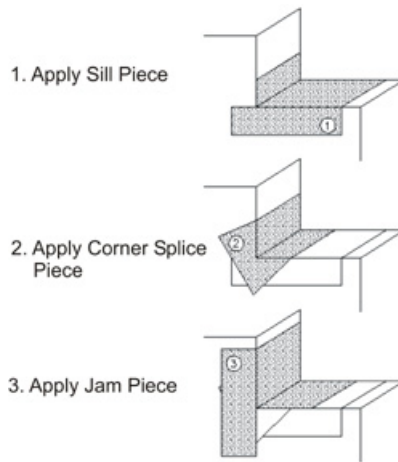

Figure 8
- 1) Apply the Dryvit Flashing Tape as shown in the detail below - Figure 8.